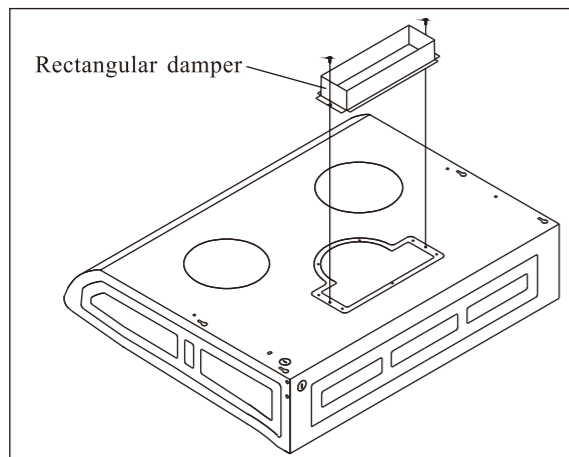

Fig. 4 Place and screw the rectangular damper
- (c) Place and screw the rectangular damper with 5/16" L X 5/32" Dia. Screws. (Fig4)